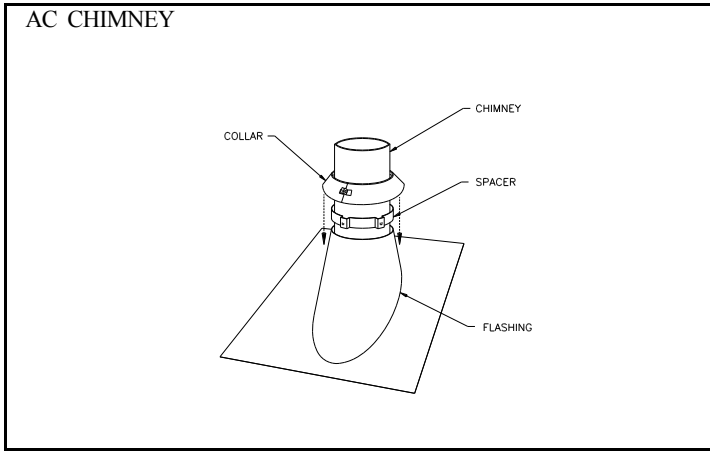

Figure 29
5. Then, put the roof flashing in place and seal the joint between the roof and the flashing with roofing pitch. (See figures 29 & 30). For sloping roofs, place the